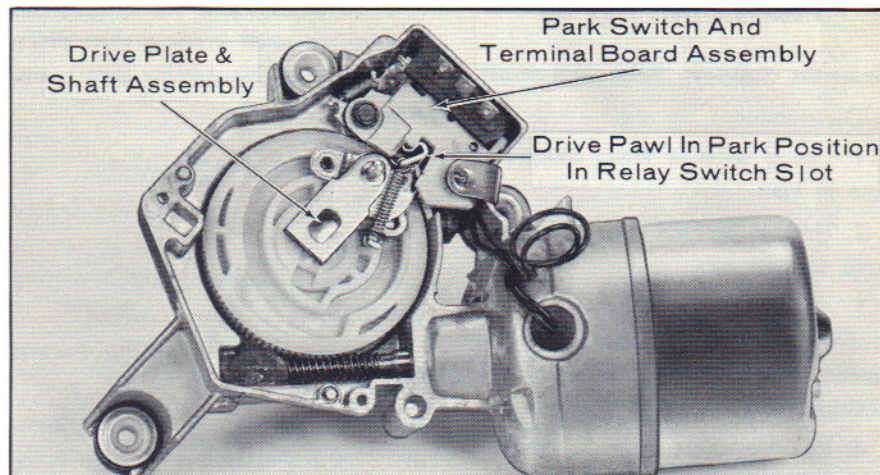

Fig. 5
2. If wiper gear drive pawl is in Park position, Fig. 5, manually trip the relay latch arm toward the relay coil, and apply feed current to the center terminal of the wiper terminal board and ground to the motor case. The wiper motor will turn the gear, moving the drive pawl out of the Park position in the relay slot.